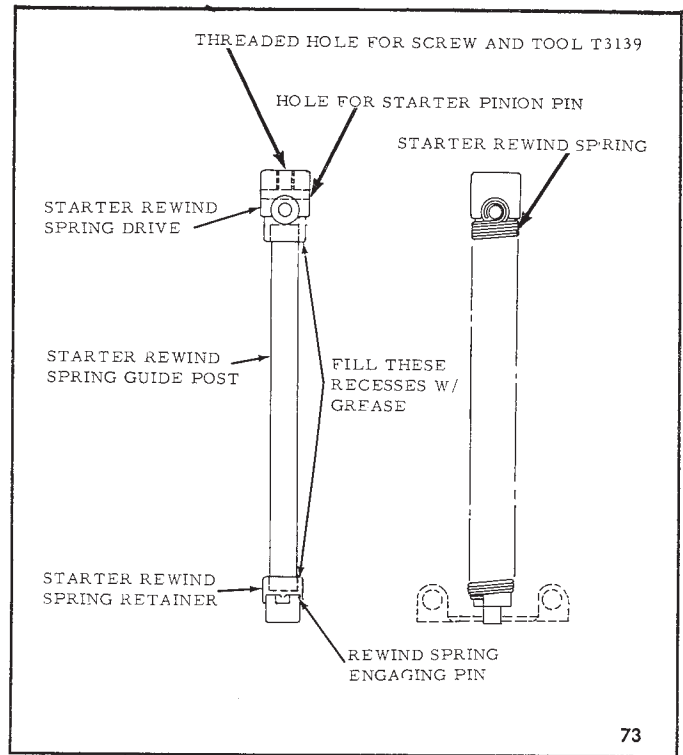

FIGURE 5—SPRING AND GUIDE POST
5. Insert the rewind spring retainer inside the rewind spring with the rectangular lug toward the flat end of the rewind spring. Turn the spring retainer until the rectangular lug extends beyond the flat end of the rewind spring. Engage the lower eye of the rewind spring with the pin on the rewind spring retainer. Refer to Figure 5.
6. Insert rewind spring guide post inside of rewind spring. Engage upper eye of rewind spring with pin on rewind spring drive. Refer to Figure 5 for proper assembly methods.